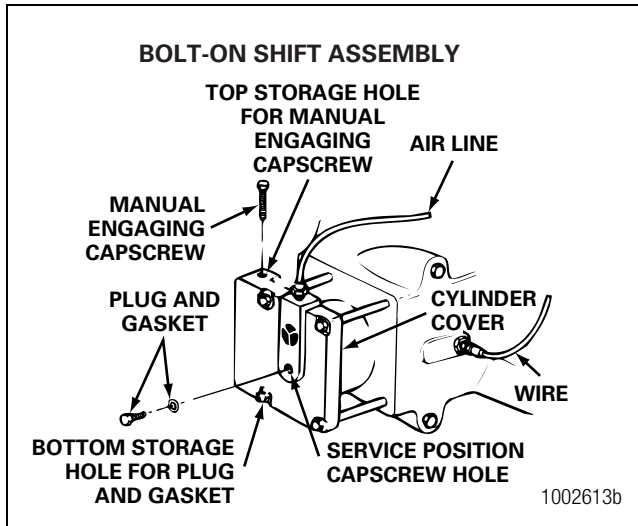

Figure 11.6
- A. Disconnect the air hose from the shift cylinder. Figure 11.6.
- B. Remove the manual engaging capscrew from the storage hole. The storage hole of threaded shift assemblies is located in the shift tower of the carrier, next to the cylinder. Figure 11.6.
10. Install the manual engaging capscrew into the storage hole. The storage hole of bolted on shift assemblies is located in the top side of the shift cylinder cover. Tighten the capscrew to 15-25 lb-ft (20-35 N•m). Figure 11.6.